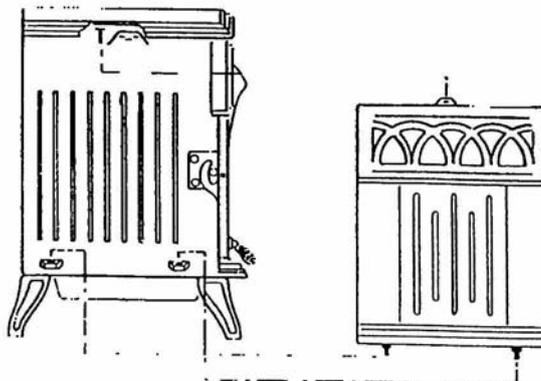

Fig 2
- To assist with lifting, remove the side panels by lifting and disengaging from the bottom and top pins. See Fig 2.